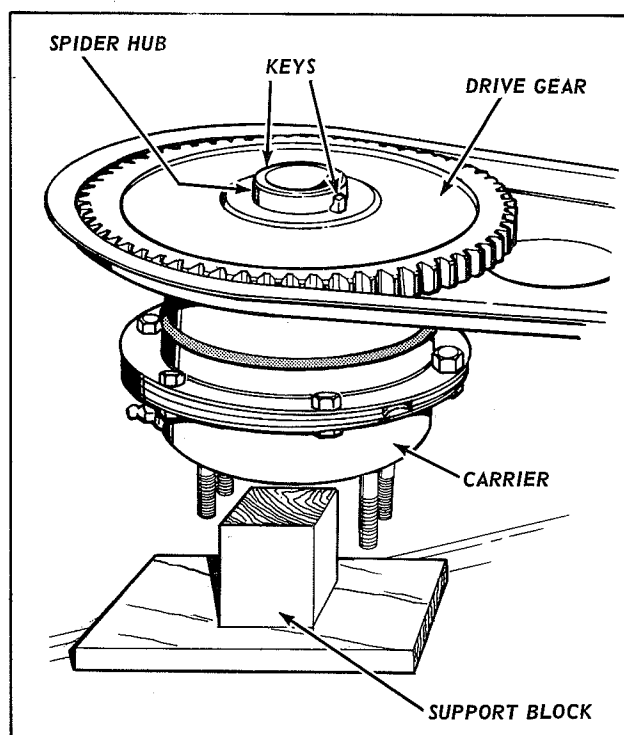

Figure 7
5. Support the spider as shown in Figure 7 with a block small enough to pass through the opening in the carrier and large enough to amply support the face of the spider tube. Assemble the drive gear to hub of spider assembly using the 2 keys to lock the gear to the hub.